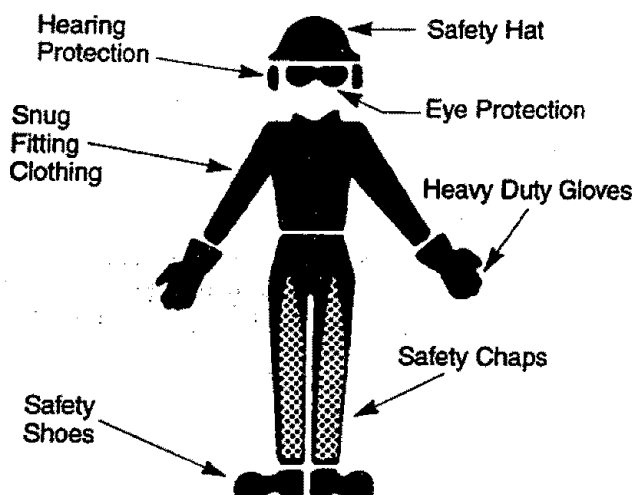

Figure 1
- Wear protective gear. Figure 1. Always use steel-toed safety footwear with non-slip soles; snug-fitting clothing; heavy duty, non-slip gloves; eye protection such as non-fogging, vented goggles or face screen; an approved safety hard hat; and sound barriers – ear plugs or mufflers to protect your hearing. Regular users should have hearing checked regularly as chain saw noise can damage hearing.